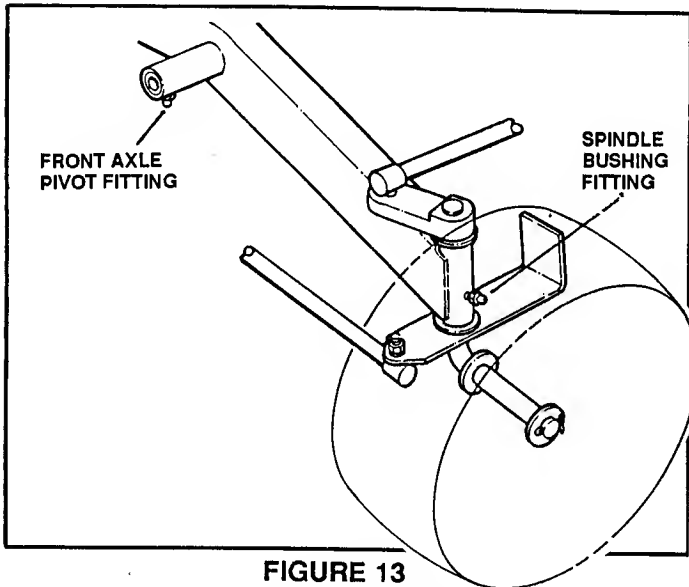

FIGURE 13
- **FRONT AXLE PIVOT & SPINDLE BUSHINGS:** Lubricate the center pivot fitting on under-side of the front axle and each spindle fitting located on rear of front axle (toward operator). See Figure 13.